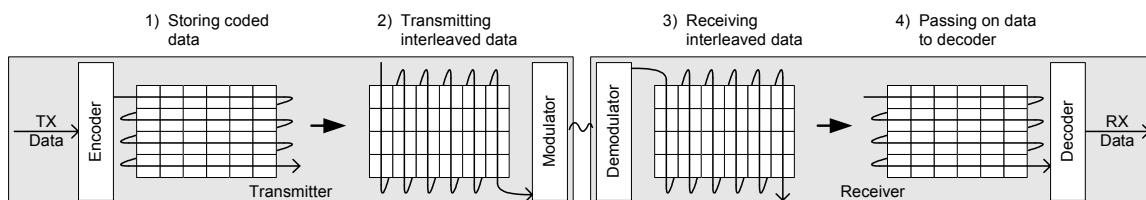

Figure 9: General principle of matrix interleaving
**CC1100** employs matrix interleaving, which is illustrated in Figure 9. The on-chip interleaving and de-interleaving buffers are 4 x 4 matrices. In the transmitter, the data bits are written into the rows of the matrix, whereas the bit sequence to be transmitted is read from the columns of the matrix and fed to the rate 1/2 convolutional coder. Conversely, in the receiver, the received symbols are written into the columns of the matrix, whereas the data passed onto the convolutional decoder is read from the rows of the matrix.